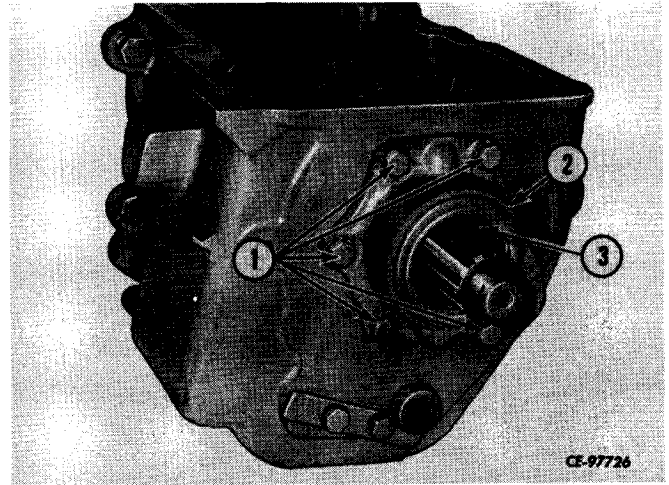

Figure 4-63
Position main shaft bearing retainer (2, Fig. 4-63), gasket and install and tighten cap screws and lock washers (1). Install spacer (3).